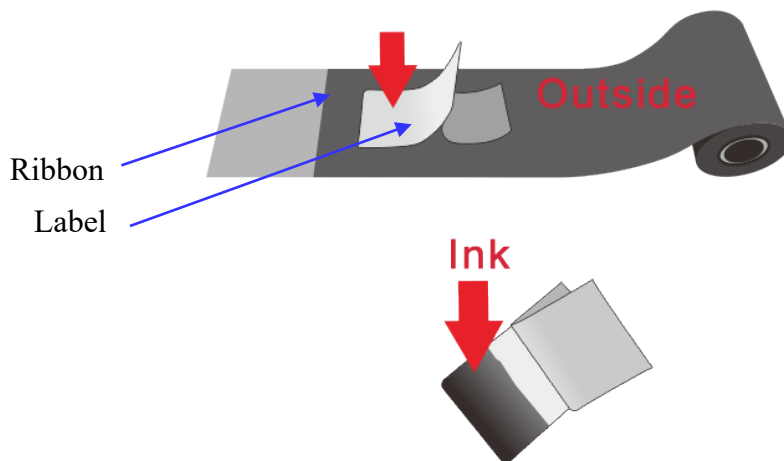

Figure 2-14 Check Ink Side
3. Stick a label to the outside/ inside of the ribbon to check which side the ink is on. See Figure 2-14.